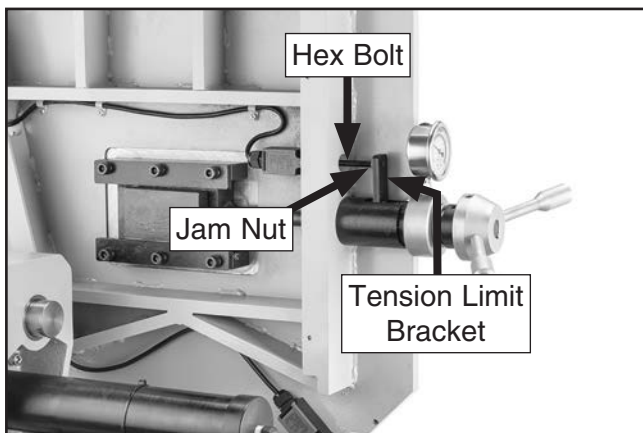

Figure 112. Blade tension limit switch adjustment components.
- Adjust limit switch hex bolt until it just touches limit switch, then tighten jam nut against tension limit bracket to secure (see **Figure 112**). Switch should not be depressed.